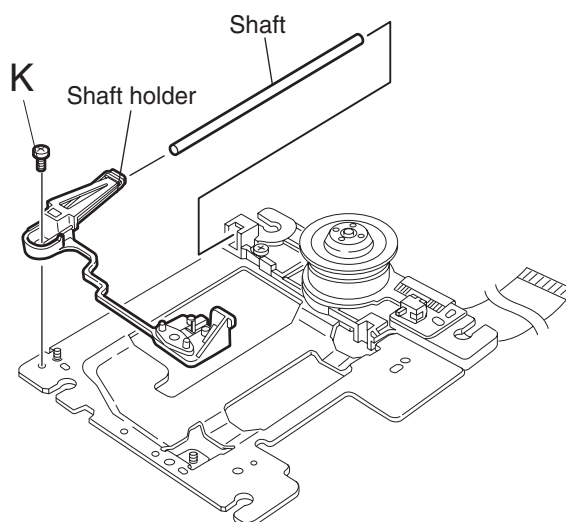

Fig.19
■ Removing the shaft holder/ shaft (See Fig.19)